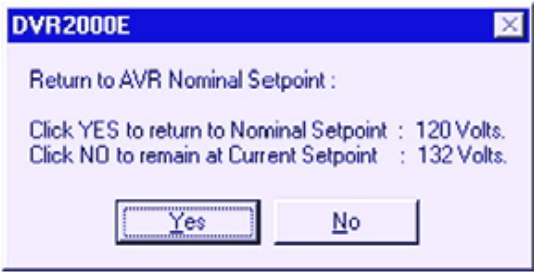

Figure 5-14. Message Box - Return to AVR Nominal Setpoint
The setpoint value currently set in the unit by any of the above methods is displayed in the current setpoint textbox. To return to the nominal setting the button adjacent to AVR Setpoint (V) (Nominal) should be pressed. If the AVR analysis screen is left without returning to nominal setpoint, a message box (Figure 5-14) is shown which allows the user to return to nominal setpoint by pressing YES or remain at the current setpoint by pressing NO.